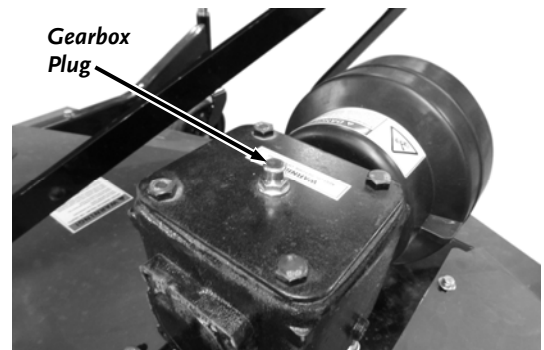

Figure 19
5. Install the Gearbox Plug into the top of the Gearbox using a 17mm Wrench (**Figure 19**).